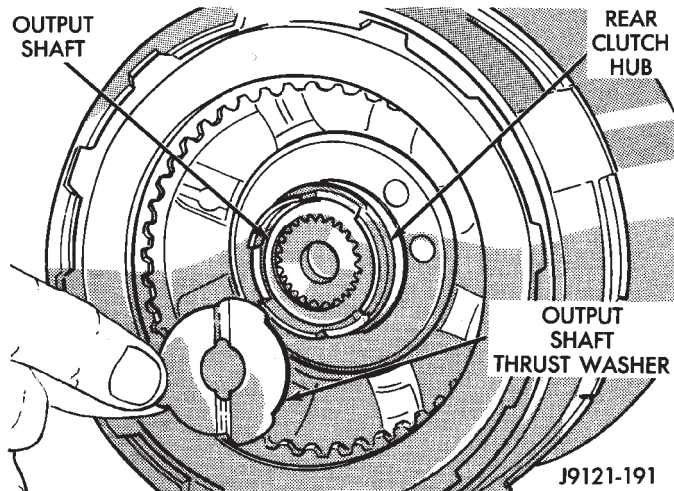

Fig. 144 Installing Output Shaft Thrust Washer
(5) Coat output shaft thrust washer with petroleum jelly. Then install washer in rear clutch hub (Fig. 144). Use enough petroleum jelly to hold washer in place. **Be sure grooved side of washer faces rearward (toward output shaft) as shown. Also note that washer only fits one way in clutch hub.**